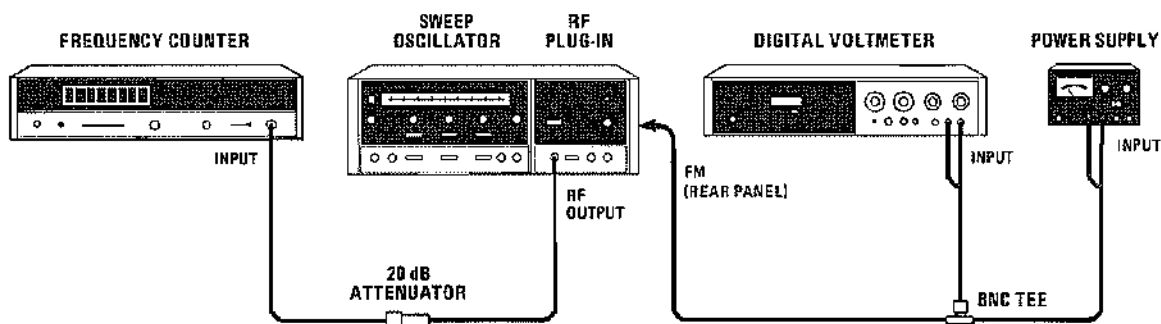

Figure 5-16. FM Sensitivity Adjustment Test Setup
- a. Connect equipment as shown in Figure 5-16. Do not connect power supply to rear panel FM input.